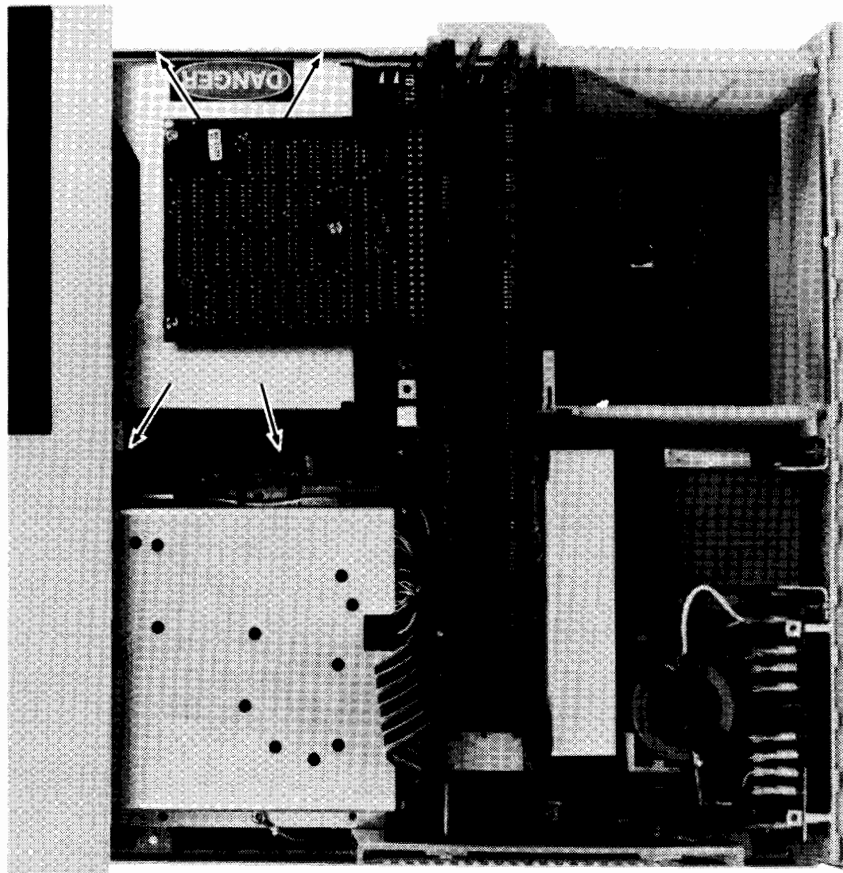

Figure 4-9. 9826 CRT/High Voltage Cover Fasteners.
2. Remove the CRT/high voltage cover by turning the four quarter-turn fasteners (shown in Figure 4-9) one-quarter of a turn counterclockwise with a #1 pozidriv.